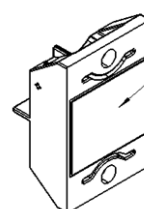

Figure 6.4: Application of thermal paste on the diode module
- Apply thermal paste to the heatsink of the new module, $40 \mu m \pm 25\%$ (Figure 6.4).